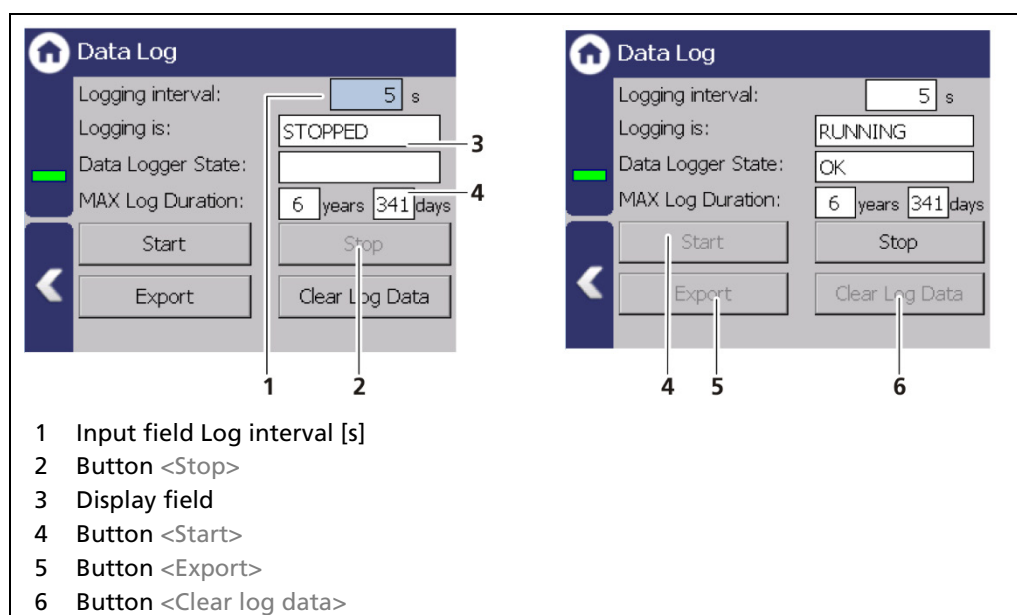

Fig. 141 Data Log
1. Click on the button <Stop> (Fig. 141, item 2) to stop the data log process.
2. Click on the input field "Log interval" (Fig. 141, item 1) and enter the time in seconds.
4. Click on the button <Start> (Fig. 141, item 4) to start the data log process.
3. Click on the button <Export> (Fig. 141, item 5).